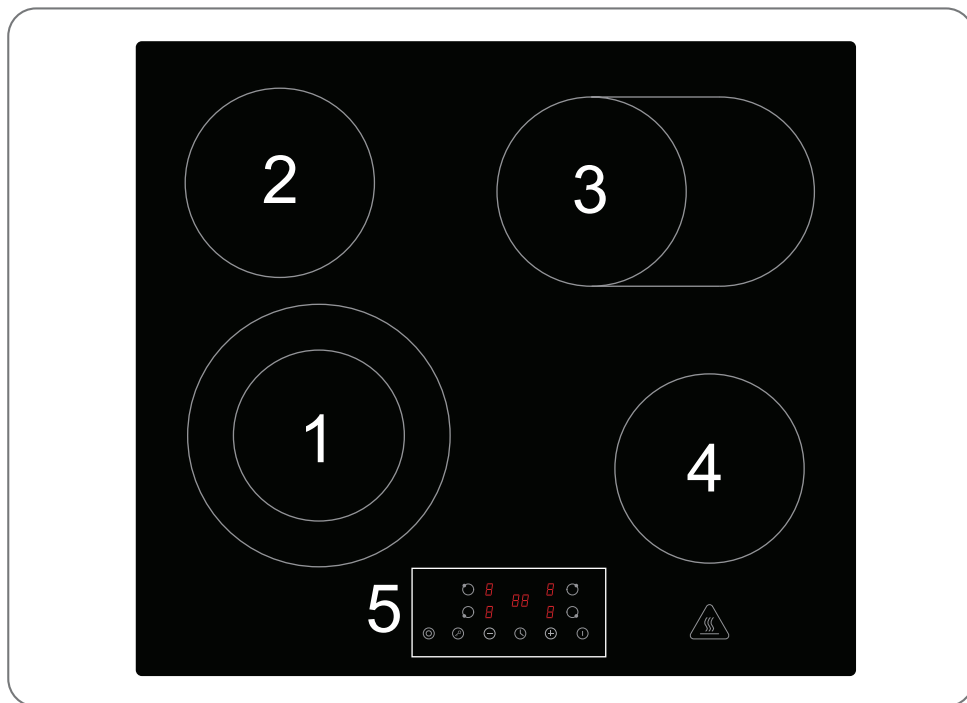
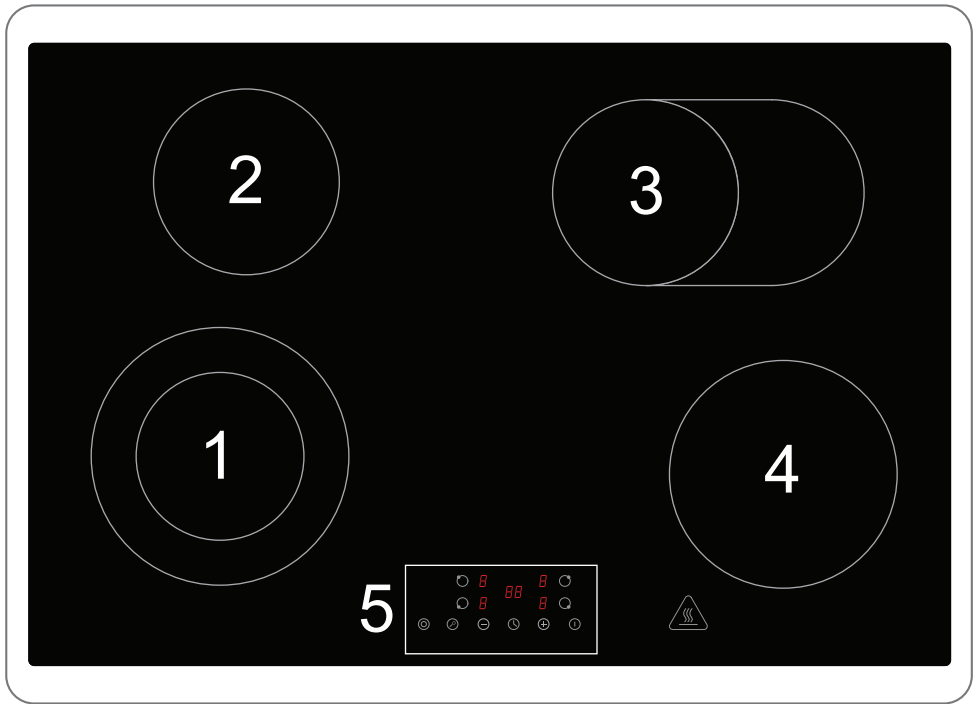

Fig. 4.6
Fig. 4.7
**NOTE:** The zones available for the dual cooking area are 1 and 3 (see Fig. 4.6 and Fig. 4.7).
**NOTE:** The zones available for the dual cooking area are 1 and 3 (see Fig. 4.6 and Fig. 4.7 ).